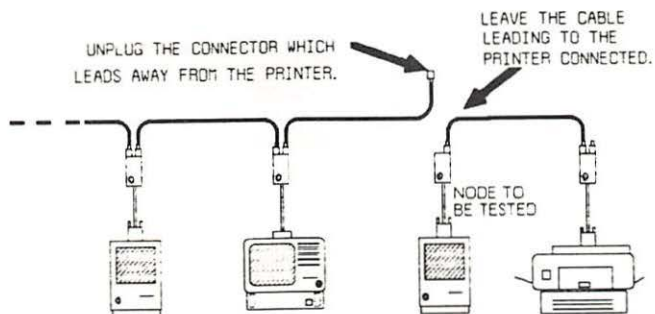

FIGURE 2
2. FIND THE FIRST NODE NOW CONNECTED TO THE PRINTER. FIND THE NODE'S APPLTALK CONNECTOR. UNPLUG THE NETWORK CABLE FROM THE NODE'S APPLTALK CONNECTOR WHICH LEADS AWAY FROM THE PRINTER. LEAVE THE CABLE GOING TO THE PRINTER CONNECTED (SEE FIGURE 2 ON PAGE 21).
Figure 2 is referred to by Sheet 1 of the ALL NODES flowchart.